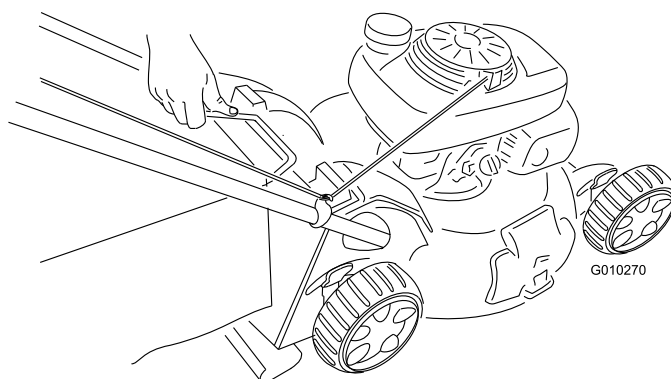

Figure 29
2. Lift the grass bag handle out from the grooves at the top of the mower and remove the bag from the mower (Figure 29).